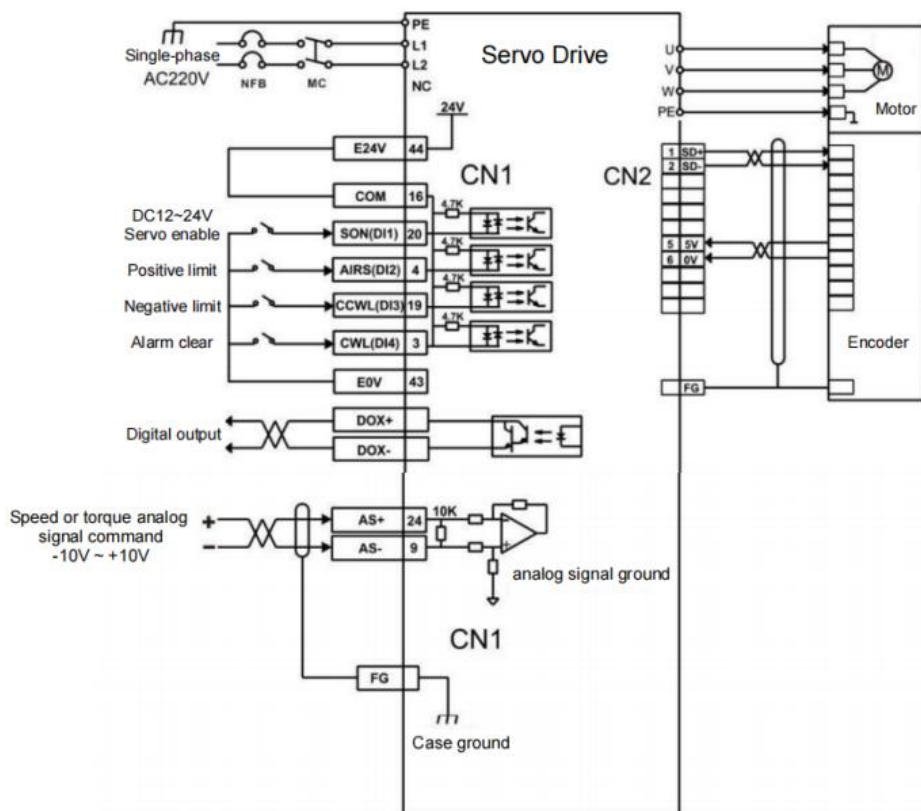

Figure 5.6 Torque Mode Wiring Diagram
- 3) Refer to Figure 5.6 for wiring instructions to connect the required DI/DO signals in the CN1 terminal, such as servo enable, alarm clear, positioning completion signal, etc.